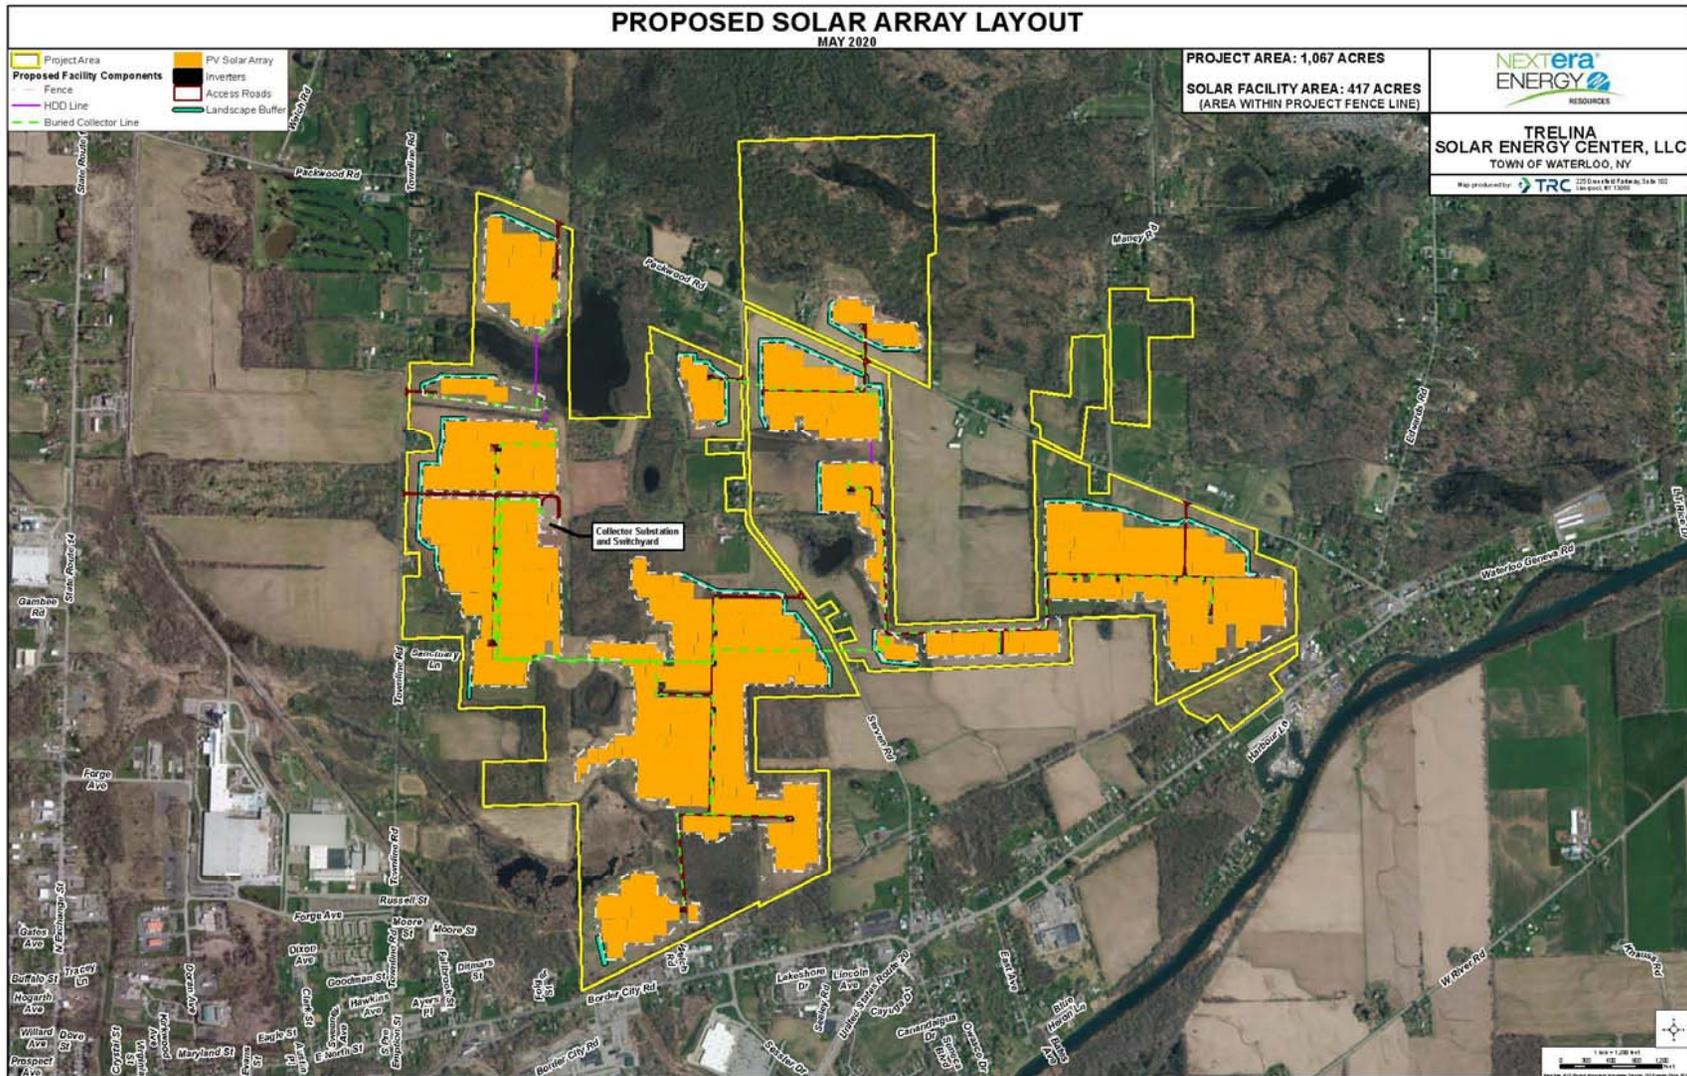

Figure 1. General Layout of Trelina Solar Energy Center
The Project consists of privately-owned parcels under lease agreement with the Applicant. The Project consists of approximately 296,842 photovoltaic (PV) panels oriented in linear rows spaced approximately 14.6 feet apart. Panels are connected by electrical cables hung on the underside of the panels or buried underground. "Blocks" of panels are connected to an inverter. There are 26 inverters overall that convert direct current (DC) electricity to alternating current (AC). The AC power is then routed via 34.5-kilovolt (kV) collector lines to the Project collection substation and switchyard. Gravel roads are constructed throughout the Project to facilitate access for maintenance and repair. A Project overview is provided in Figure 1.
The Project panels are divided across 18 parcels. Panels can be accessed from nine different access roads intersecting three municipal road throughout the Project Area (Figure 1). These include Pre-Emption Street, Packwood Road, and Severn Road. Each panel array area of the Project is enclosed by chain-link fencing with locking gates to ensure public safety. Gates are outfitted with a “Knox Box” type locking system to allow site access by emergency personnel. All gravel access roads have been designed to facilitate access throughout the Project. Roads are a minimum 14 feet wide and have occasional turnarounds with 35-foot radii to accommodate large truck movement (e.g., pumper or ladder type fire trucks). The 14.6-foot spacing between each row of panels can also provide access, if needed. In addition, there is a minimum 10-foot-wide clear path between the fence and panels to allow for additional vehicle access (e.g., pickup truck, all-terrain vehicle [ATV], etc.) throughout the site. Project Components, including fencing, inverters, energy storage system, access roads, and gates, are depicted in Figure 1.